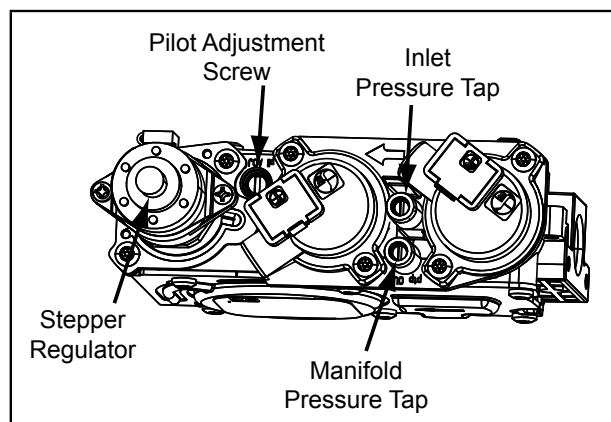

Figure 26: Gas Valve Diagram
10. Light the pilot and recheck for leaks in the aluminum pilot line. If a leak is evident, contact your ENVIRO dealer for a pilot line replacement. **WARNING: DO NOT ATTEMPT TO FIX THIS LINE, IT MUST BE REPLACED IF DAMAGED.** The pilot should properly cover the flame sensor. If adjustment is necessary, turn the adjustment screw in the valve (see Figure 26) clockwise to decrease and counter-clockwise to increase until the correct flame is achieved (see Figure 16).